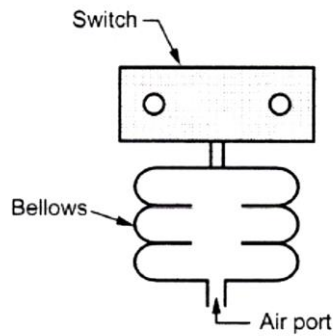

Fig.4.5 – Bellows
- ▶ Fig. 4.5 shows an example of a bellows sensor, which uses a spring to oppose the movement of the bellows and provides a means to adjust the amount of travel the chamber which it will have when pressure is applied.